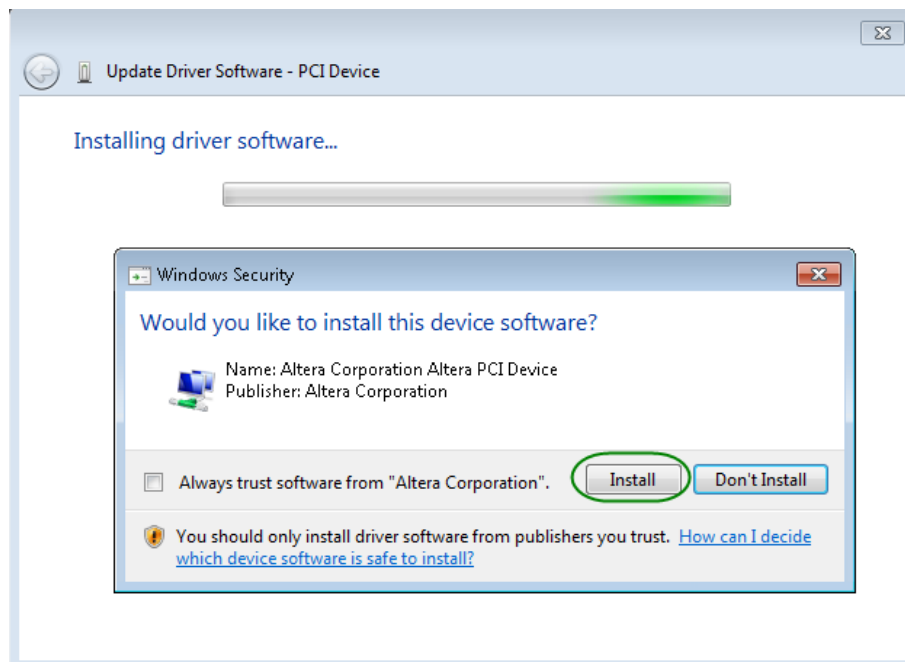

Figure 7-6 Click Install in the dialog of Windows Security
8. When the **Windows Security** dialog appears, as shown **Figure 7-6**, click the **Install** button.